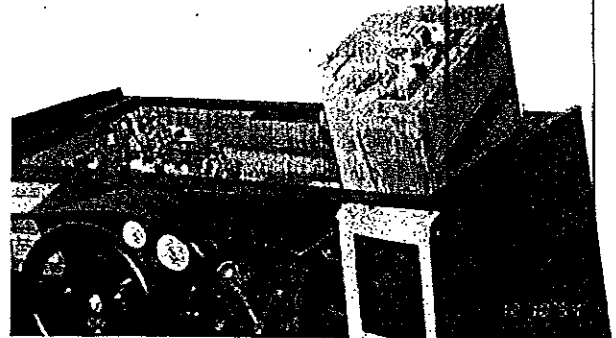

Fig. 23.4
- ⑤ By holding the catch, pull out the Shield Case together with the Base (Fig. 23.4).